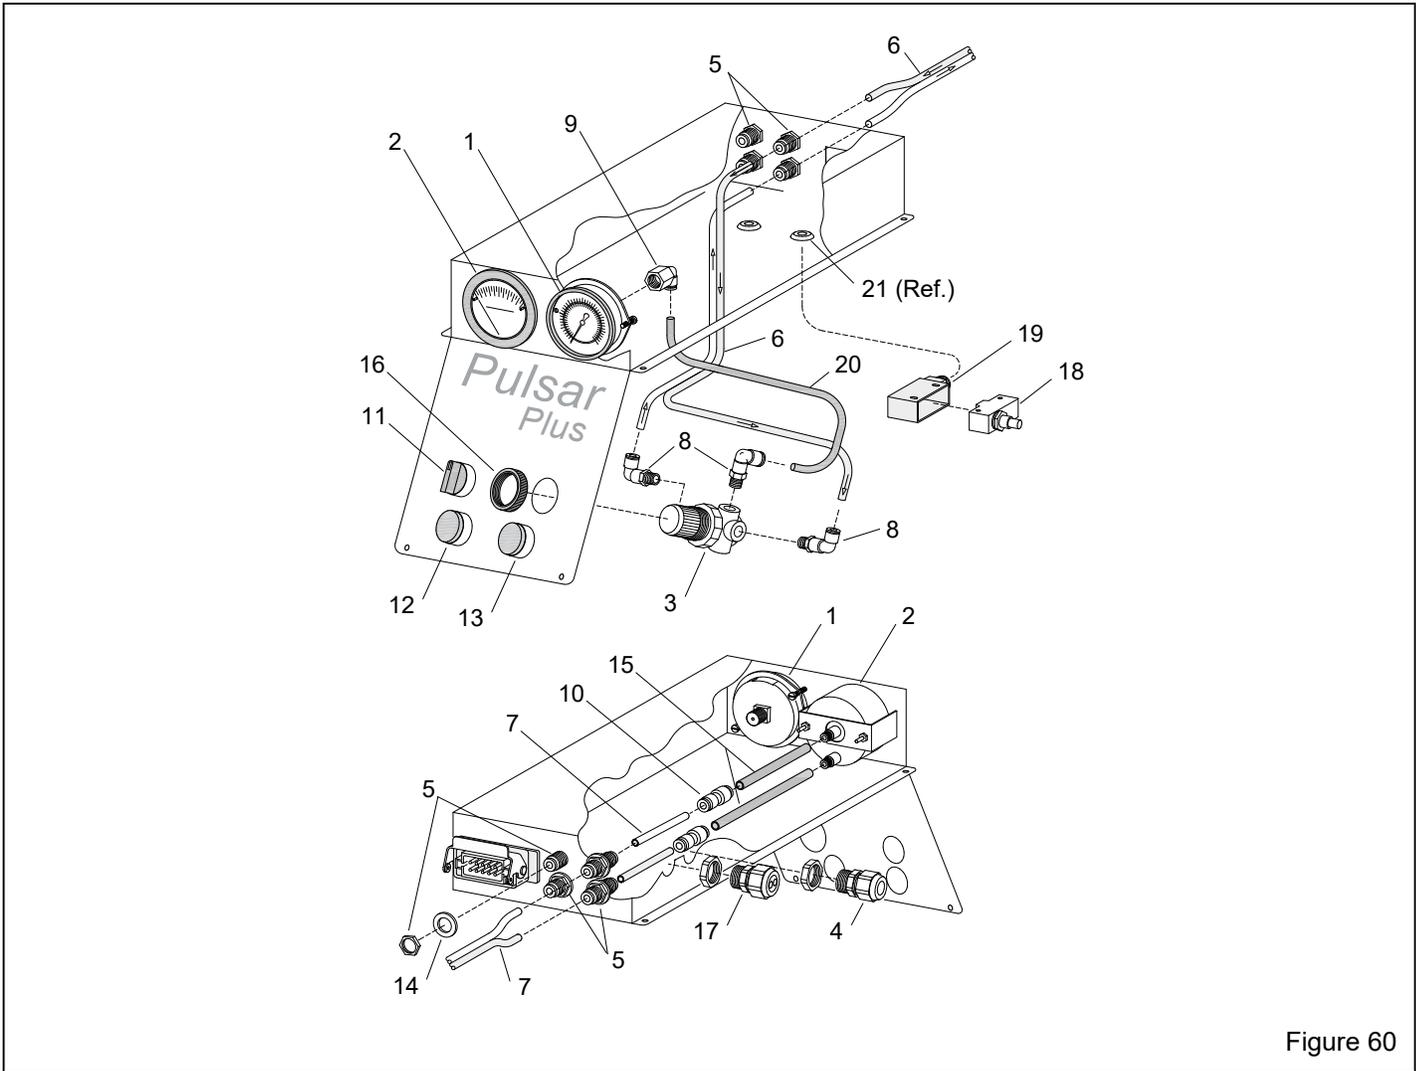

Figure 60
10.3 Cabinet Control Console – Figure 60